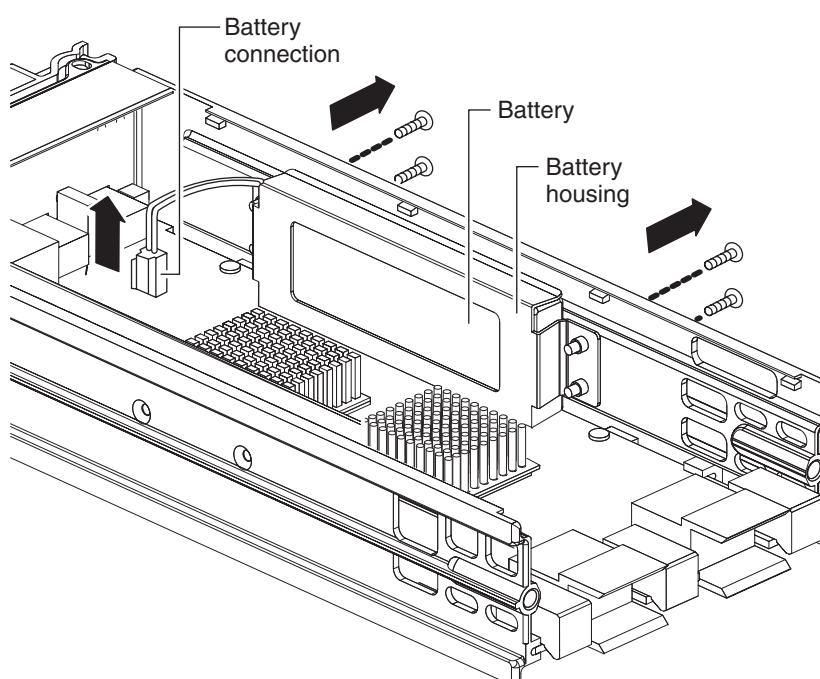

Figure 12. Battery housing in CPU module
4. At the side of the CPU module, remove the four screws holding the battery housing, and remove the battery. See Figure 12.